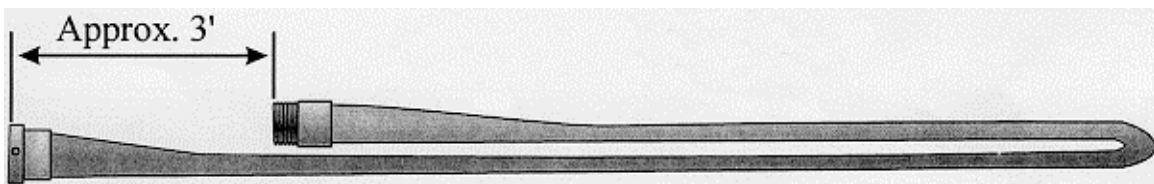

Fig. 7-8
- C. Place the male butt about 3 feet from the female coupling (see Fig. 7-8)